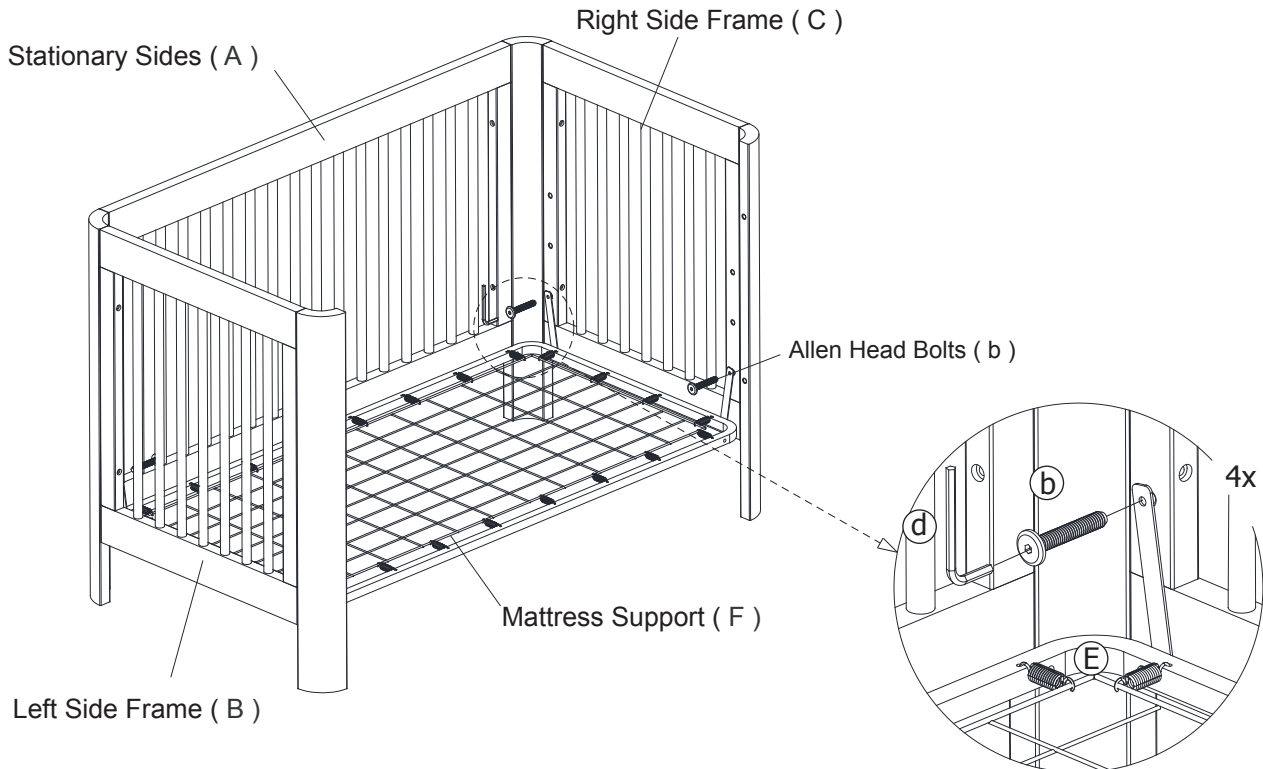

Figure 3 :
A. Locate the metal spring (G) with tabs . Be sure the smooth side of the metal spring is placed upward . Position the tabs of the metal spring to mount to selected position onto the Corner Post Insert the 15mm Allen head bolts (b) through the tabs and into the threaded insets onto the Corner Post. See Figure 3 .